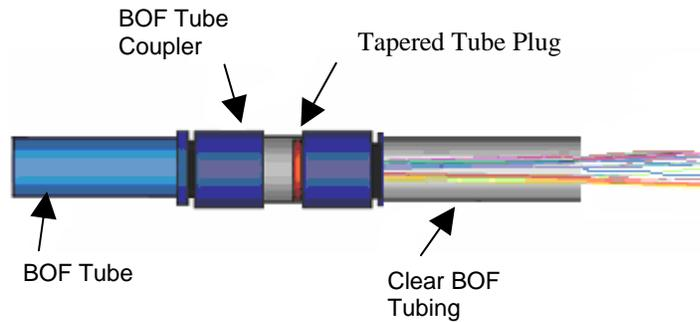

Figure 6
Step 7 – Slide the short piece of clear BOF tube with the tapered tube plug into the tube coupler and seat firmly (Figure 6). Apply a light load of approximately 22 N (5 lbs) between the tube and the coupler to ensure the tube is fully engaged onto the coupler.